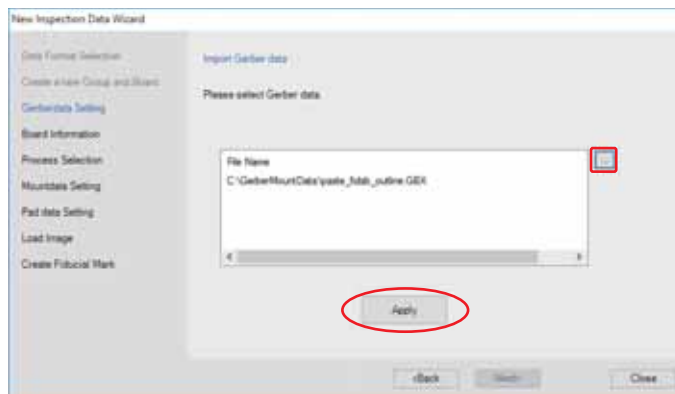

Figure 1-47 Import Gerber Data 1
Step3: The dialog box shown in Figure 1-47 appears. Click **Next** to proceed next step.